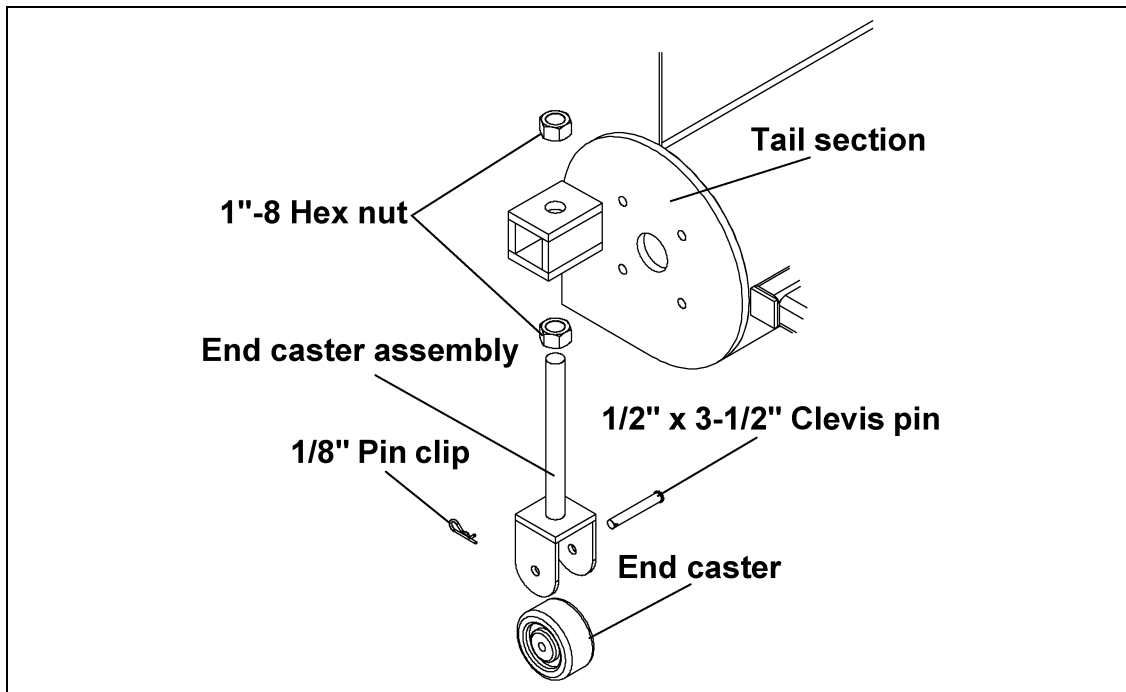

Figure 5I
- B. (All 16" Models and 12" Models with extensions.) Assemble the end caster to the end caster assembly using the 1/2" x 3-1/2" clevis pin and 1/8" pin clip as shown in See Figure 5I.
- C. Attach the end caster assembly to the end of the tail section using two (2) 1"-8 hex nuts.